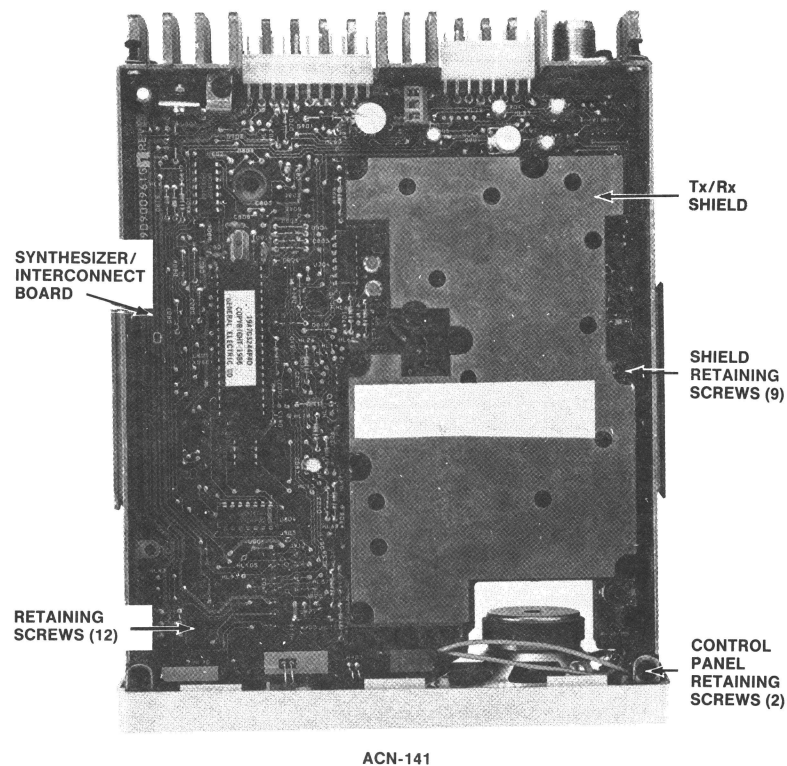

Figure 2 - Typical Synthesizer/Interconnect Board Removal
2. Remove the four screws in the front control panel and remove panel. See Figure 2. Also, remove screws securing display board (if present) to front panel.